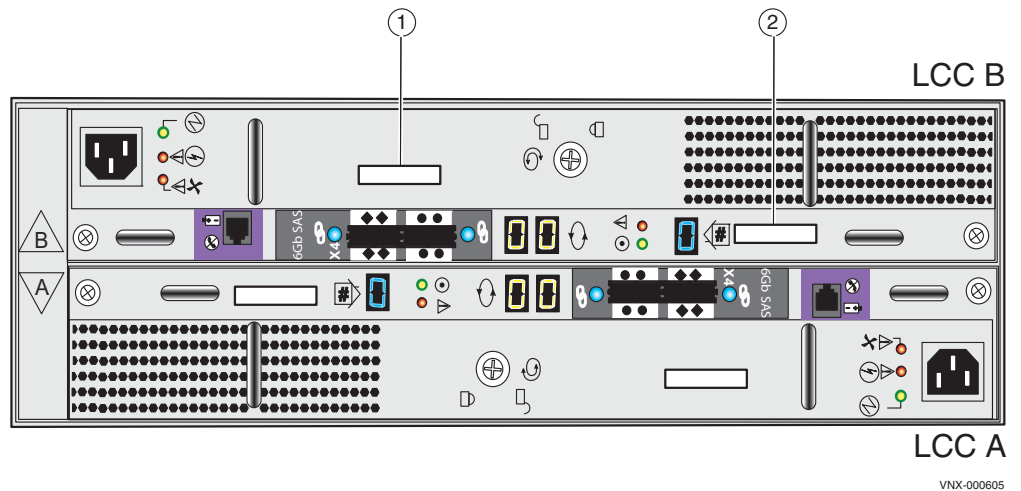

Figure 18 Example of 3U, 15 (3.5-inch) DAE LCC and power supply
Figure 18 shows the part number label location on the rear of the 3U, 15 (3.5-inch) DAE for the LCC and power supply.
1. The rear of the 3U, 15 (3.5-inch) DAE has the LCC power supply and LCC inverted or on top of each other. In other words, the LCC B power supply is located on the top of LCC B. While LCC A is located on the bottom of the DAE with LCC A on top of the LCC A power supply (Figure 18 on page 18).